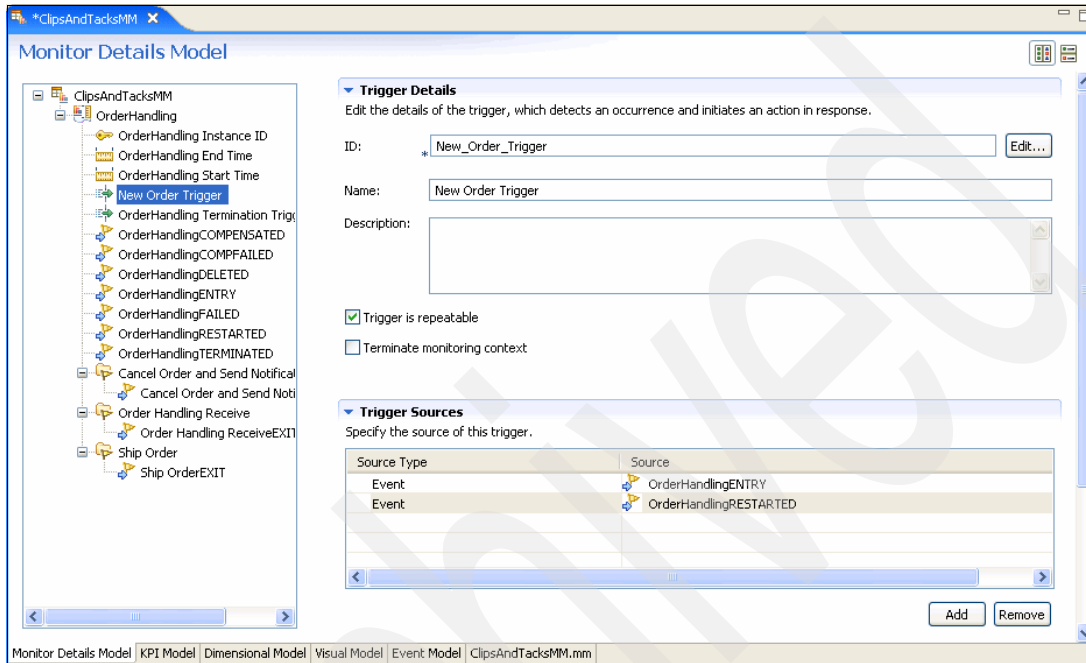

Figure 5-32 New Order Trigger overview
3. In the Monitor Details Model panel (Figure 5-32 on page 181), under Trigger Sources:
- d. In the Select Trigger Source window, click **Other source type** and select **OrderHandlingRESTARTED**. Then click **OK**. Figure 5-32 shows the completed Trigger Sources section.